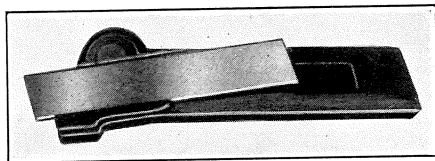
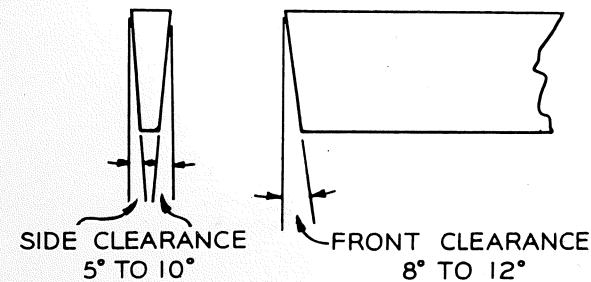

FIG. 187. Cut-off Tool.
FIG. 189. Clearance angles of cut-off tool.
Figures 187 and 188 show the tool recommended for most operations. This tool is
supplied ready-ground with correct top rake, front and side clearance, so that the front face cuts freely without binding (Fig. 189). The cutter blades are replaceable, and the holder is offset to permit cut-off operations close to the headstock spindle.
6. To resharpen the cut-off tool shown in Figure 187, grind the front edge only, allowing front clearance (see Fig. 189).